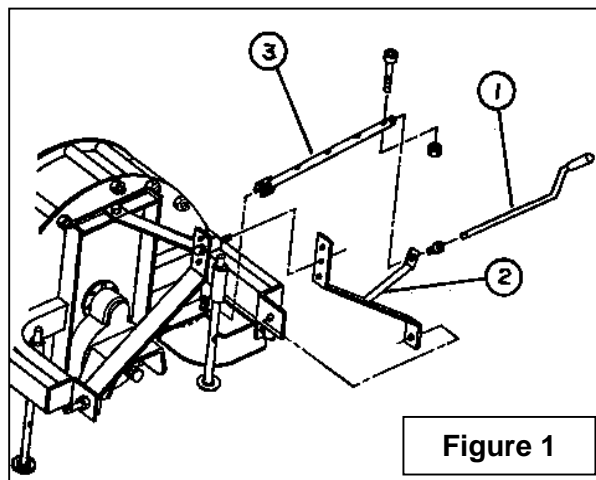

Figure 1
1. **Figure 1:** Insert the nozzle rotation handle (item 1) through the handle support (item 2) and inside rotation tube (item 3). Lock in place with a 10-24 x 1" allen capscrew and a nylon lock nut. Do not tighten.